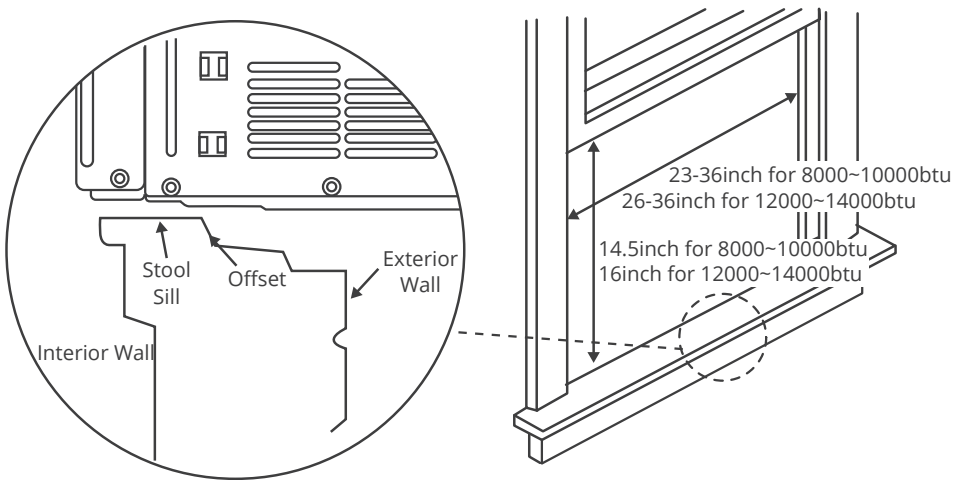

Fig.1
- The Lower Sash (the lower part of the window that moves up and down) must allow for 14.5" of vertical clearance when open, for 8000btu~10000btu. (See Fig.1). for 16" of vertical clearance when open, for 12000btu~14000btu. (See Fig.1).